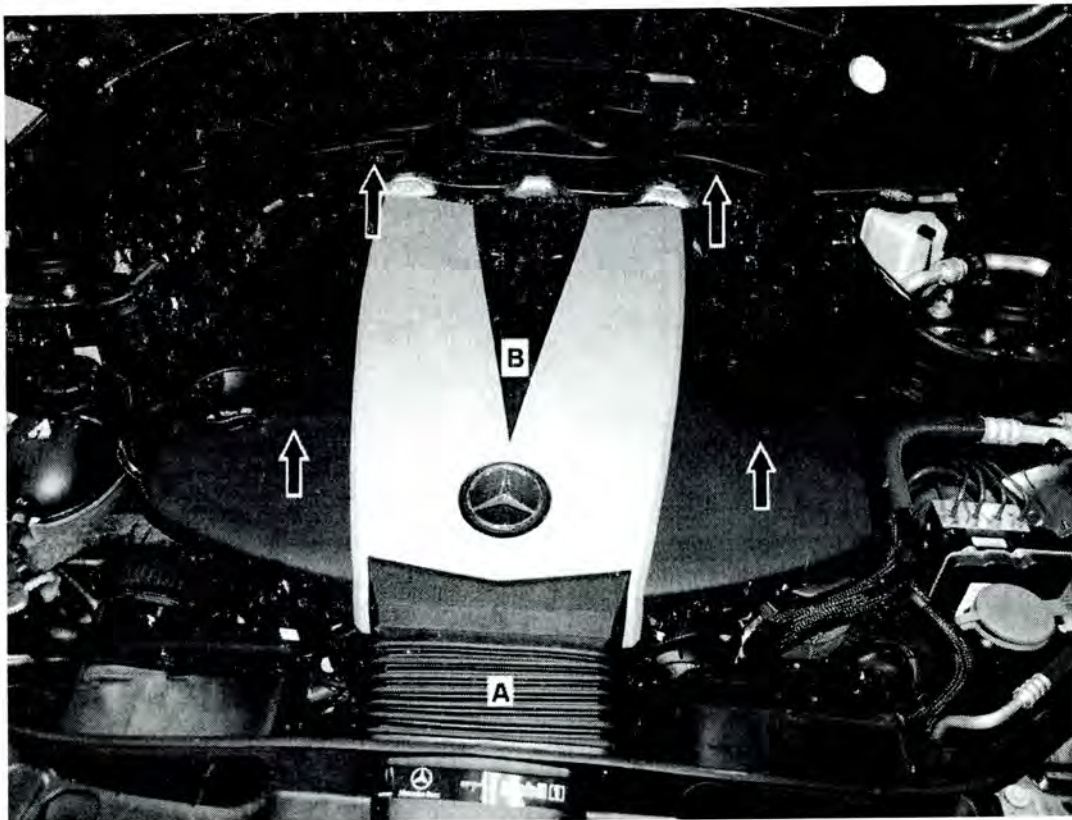

Figure 1
- Model 212: Unclip air duct (A, Figure 1) from upper engine cover (B) then disconnect duct (A) from cover (B). Pull cover (B) up (arrows) from mounting posts at front and rear and remove.